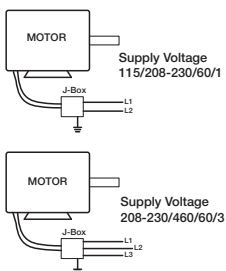

Figure 7 — Typical Wiring Diagram Operation
8. Mount and wire safety disconnect switch under ventilator cover and wire motor per connection wiring diagram on motor. See Electrical Connection, Figure 7. Wire control switches at ground level.
NOTE: Refer to Figure 7 for connection wiring diagram.